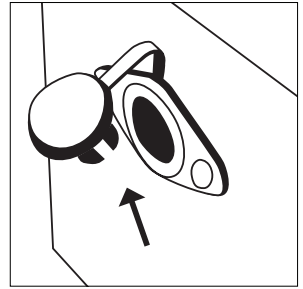

Figure 1
1. Remove plug from hole on the outer left side of the box (Figure 1).